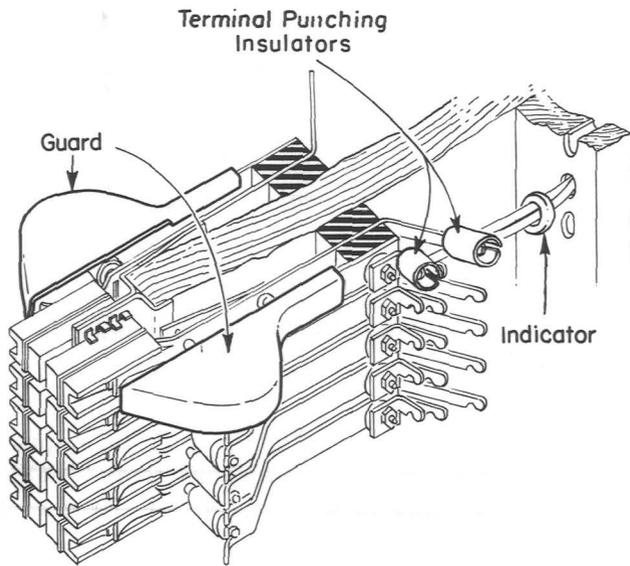

Fig. 5
3.10 Fig. 5 shows a typical protector — other than 300-type connector — with one cable pair protected with the special attachments used on special lines. A description of the additional procedures for the protection of special lines against service interruptions is covered in Section A502.001.